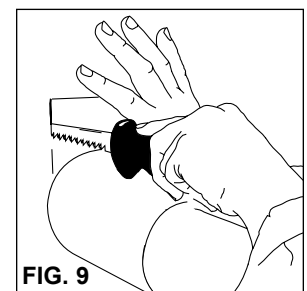

FIG. 9
3. Using a key-hole saw, cut on the outside edge of traced lines (See Fig 9) to form a "U" shaped opening.